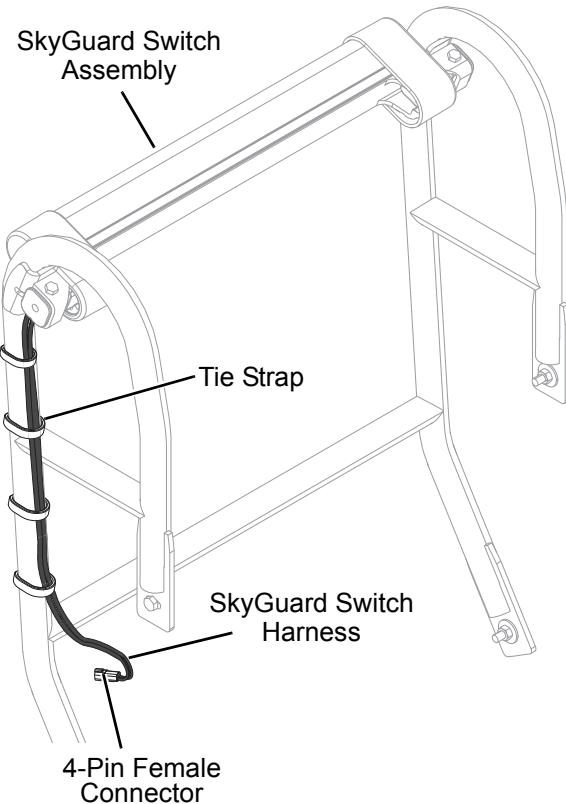

Figure 4-44.
- Route the SkyGuard switch harness along SkyGuard support bracket (right side) and under the platform control box. Secure the harness using tie straps. See Figure 4-44.